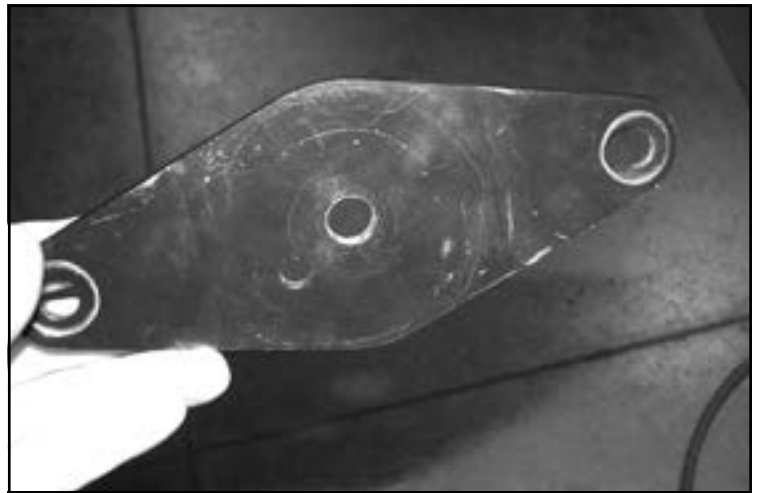

FIGURE 27 - STEP 34
34. Using a 1/2" drill bit. Drill out the center hole on the factory bumpstop mounting plate. **SEE FIGURE 27**